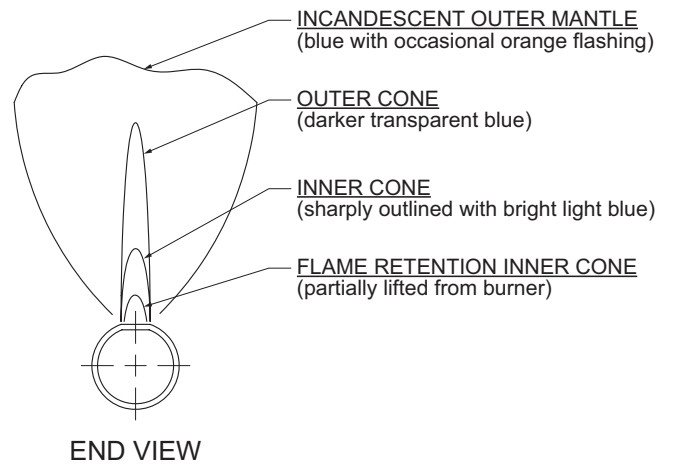

Figure 11.2 (Main burner flame)
- 11) Inspect the main burner flames visible through the observation port in burner access panel. The flame should be stable and mostly blue (see Figure 11.2). No yellow tipping should be present; however, intermittent flecks of yellow and orange in the flame are normal.